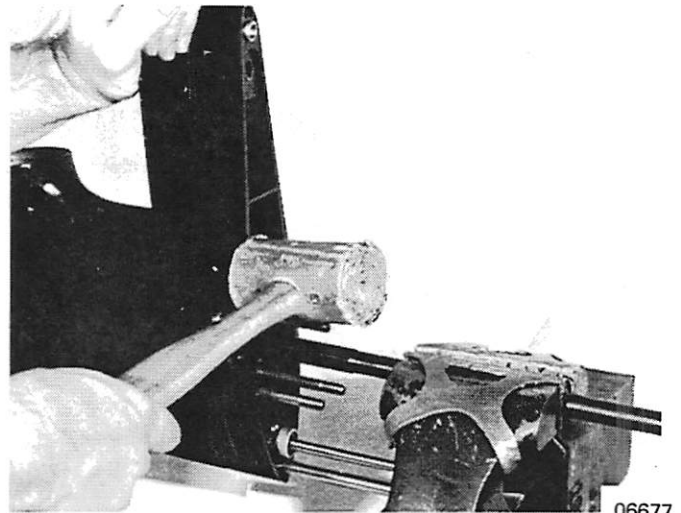

Figure 4. Removing Drive Shaft
4. To loosen drive shaft, hold drive shaft in vise and tap lightly on gear housing with rawhide mallet. (Figure 4)